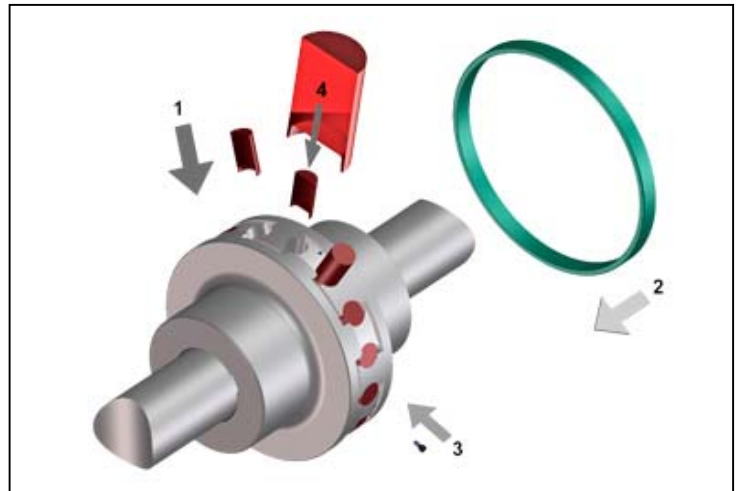

Fig. 5
- Push together the shaft ends with the mounted coupling halves while observing the mounting dimension 'h' acc. to table 5 (Fig. 5).
- Mount the buffers with the hollow pointing inwards (Fig. 5, Pos. 4).